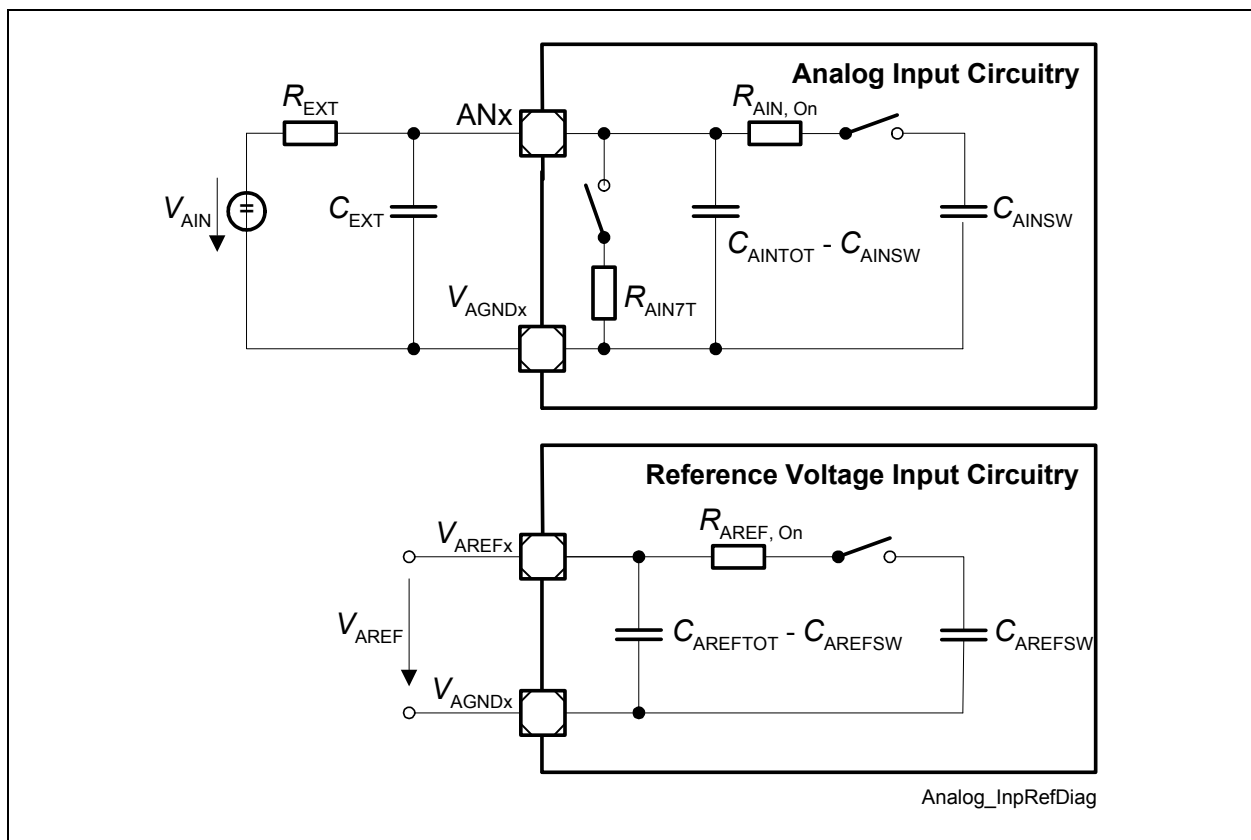

Figure 4-2 ADC0 Input Circuits
- 16) For the definition of the parameters see also Figure 4-2.